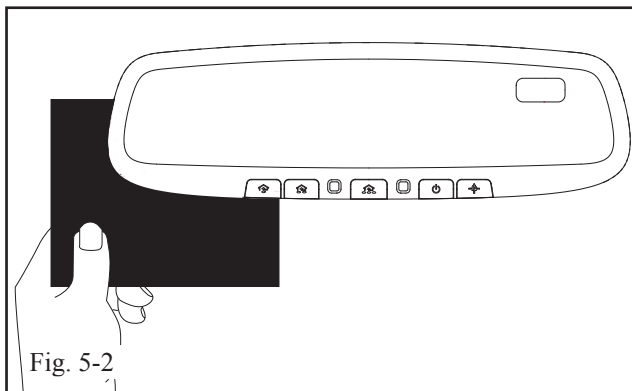

Fig. 5-2
(1) To make sure the auto-dimming feature is on, verify that the LED indicator light is on. If it is not on, push the “On / Off” button for 3 seconds, or until the LED is illuminated.
(2) Cover the forward-looking light sensor located on the back of the mirror with a dark cloth or towel. (Fig. 5-2)
(3) In a few seconds, the mirror will begin to darken (time may vary with ambient light levels).
(4) Remove the cover from the forward-looking light sensor and the mirror will begin to clear.